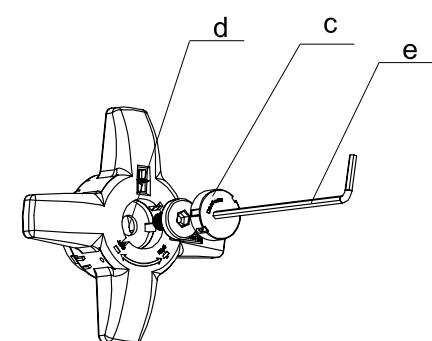

Fig. 5
- b: Remove cover plug (c) by introducing a screwdriver in the slot and gently prising it out. See Fig. 5.
- d: Turn the inner adjustment screw (d) clockwise until it seats. Use enclosed 3mm allen key for DN 15 - 50 and 4 mm allen key (e) for DN 65 - 150. The valve now can be closed, but not opened more than the setting value. See Fig. 5.
- b: Die Abdeckung (c) mit einem kleinen Schraubendreher entfernen. Siehe Fig. 5